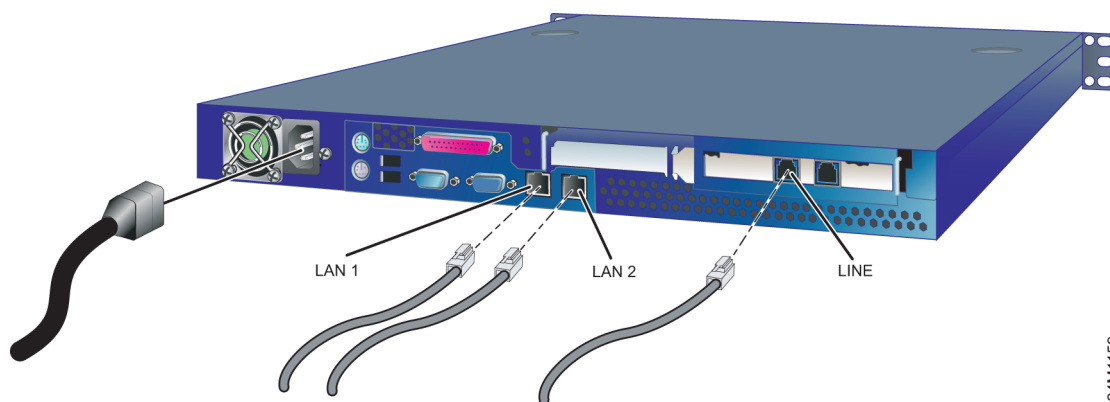

Figure 2-16 1U Management Server Connections
- a. Connect one end of the Ethernet patch cable (supplied) as shown in Figure 2-16, to the right RJ-45 adapter (LAN 2) at the rear of the server.
- a. Connect one end of a customer-supplied Ethernet patch cable as shown in Figure 2-16, to the left RJ-45 adapter (**LAN 1**) at the rear of the server.
6. Connect a phone cord to the left RJ-11 adapter (**LINE**), as shown in Figure 2-16, at the rear of the server and a facility telephone connection.
7. Connect the AC power cord to the server and a facility power source or rack power strip, as shown in Figure 2-16, that provides single-phase, 90 to 264 VAC current.